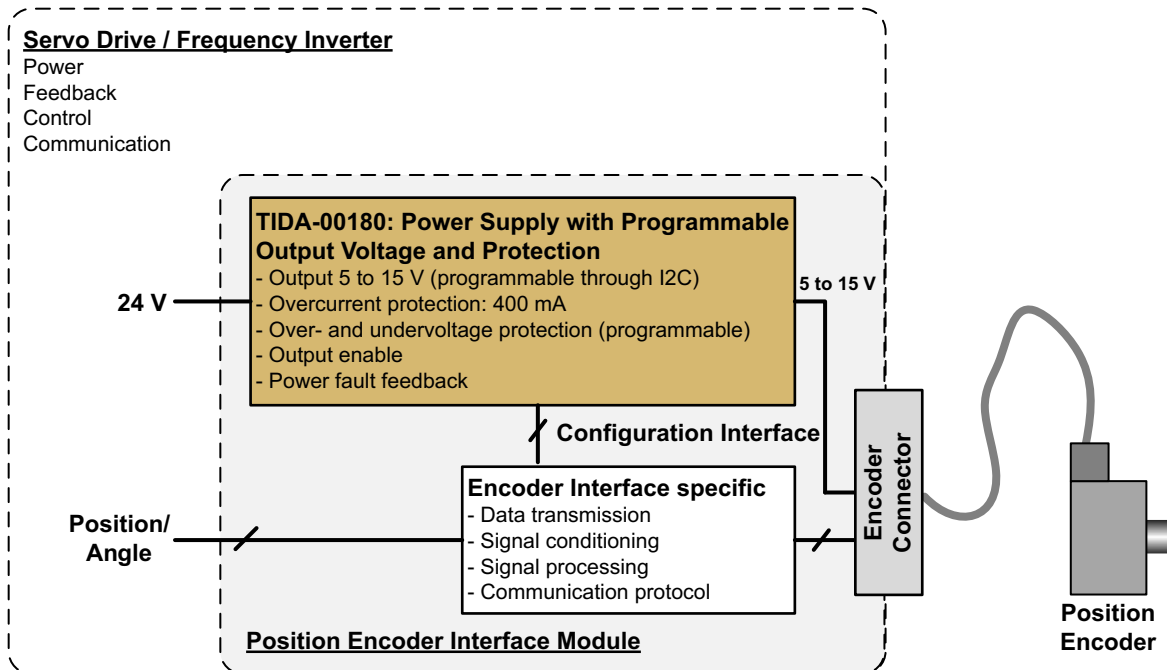

Figure 1. Block Diagram of an Encoder Interface Module with a Servo Drive Featuring TIDA-00180 Power Supply Design
This TI design implements a power supply with programmable output voltage, configurable inrush- and overcurrent (OC), over- (OV) and undervoltage (UV) protection, targeting for use in a position encoder interface module on a frequency inverter or servo drive, as shown in Figure 1.